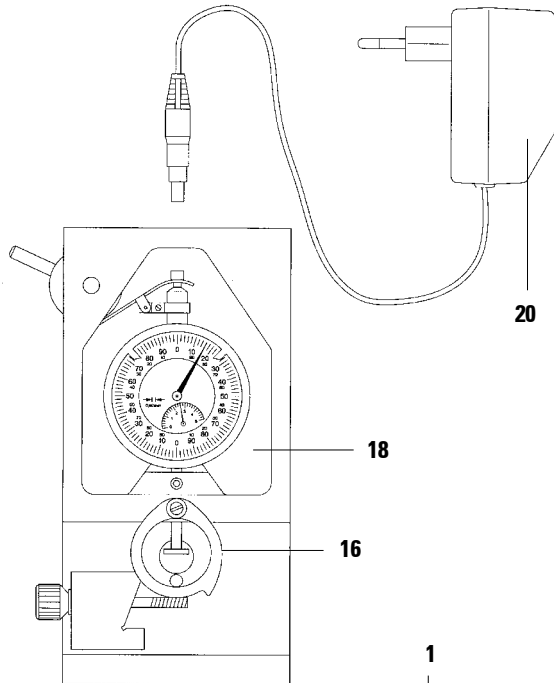
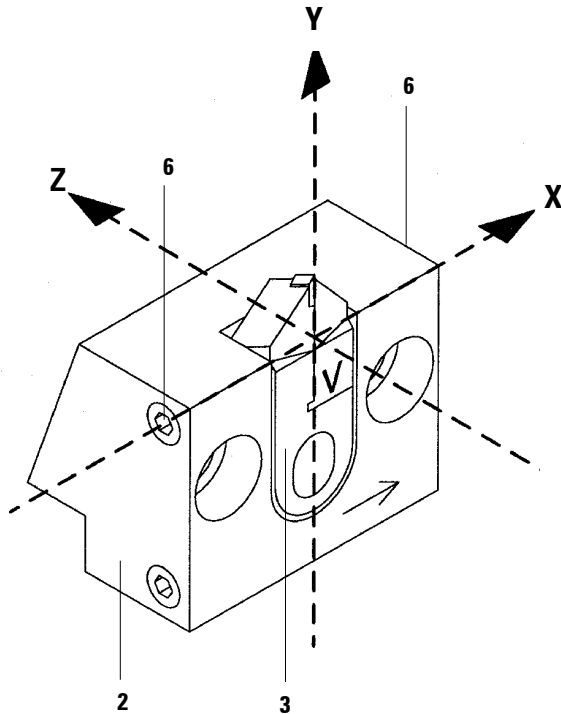

Fig. 5.1
Fig. 5.3
The miller (3) is adjusted in the holder (2) along three different axis (x, y and z - see Fig. 5.3, left). Adjustment along the x-axis is done outside the calibration device (18, Fig. 5.1).
- The miller is adjusted along the x-axis via the two regulating screws (6) (Allen key, size 2.5).
- Tighten (clockwise) and/or loosen (counterclockwise) screws (6, Fig. 5.3) alternately until the miller is adjusted to a parallel position as shown in Fig. 5.4b.